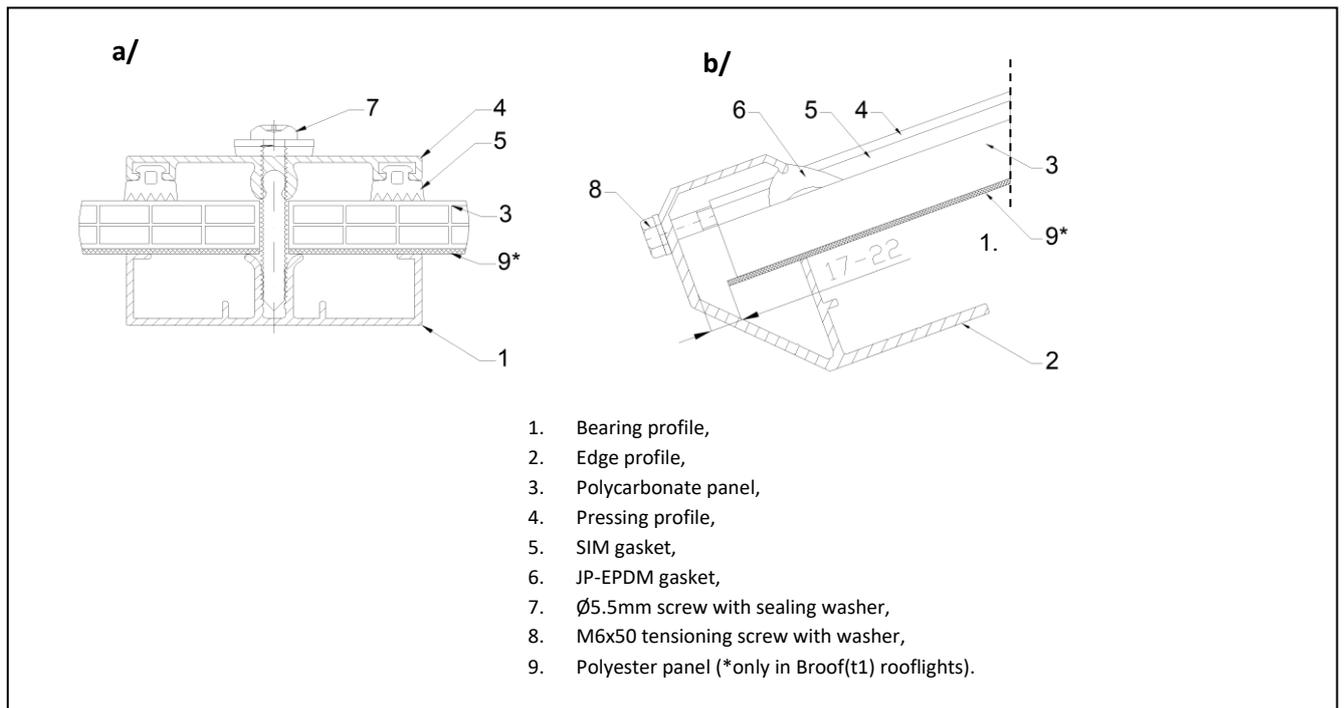
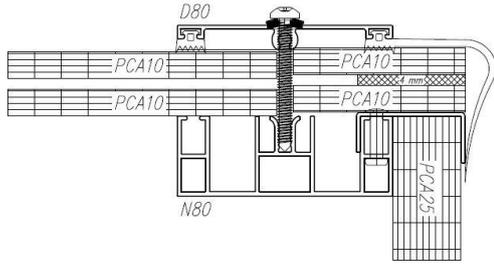

Figure 39 Connection method of: a) pressing profiles with bearing profiles; b) edge profiles with pressing profiles
Figure 52 Fitting the end panel cover strip on 80 profile system
15. Fix each pressing profile at both ends to the edge profile using M6x50 mm screws with washers, and next tension the screw (Figure 39/b).
21. Under deeper pressing profiles lay polycarbonate strips. Each pressing profile perpendicular to the edge profiles should be fixed to the edge profile using M6x50 mm screws with washers and initially tensioned (Figure 39).
25. The polycarbonate panel sections under vents and on both sides of the rooflight may have non-standard length. Gasket should be prepared for those sections. This gasket should be cut to the even width of the polycarbonate field where it will be applied plus a 2 cm margin. If the width of the field exceeds the length of the gasket – 2 cm , fill the space with two equal sections of the gasket, keeping a margin of 2 cm. Now proceed according to (Figure 52 Fitting the end panel cover strip on 80 profile system). Correctly placed in the gasket approved in as per (Figure 39).
A cross-section of a correctly inserted gasket is shown in Figure 39.